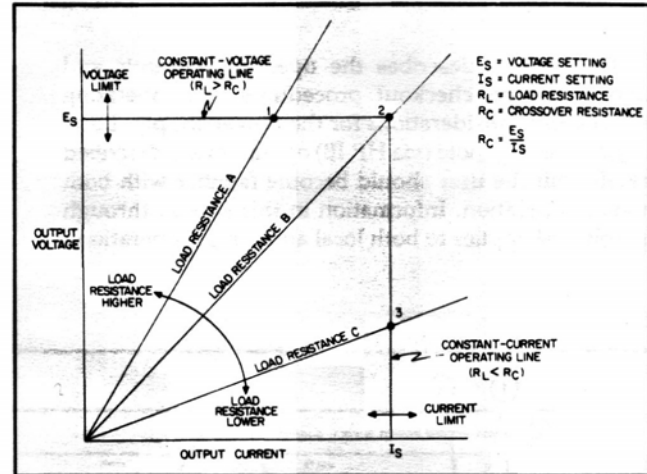
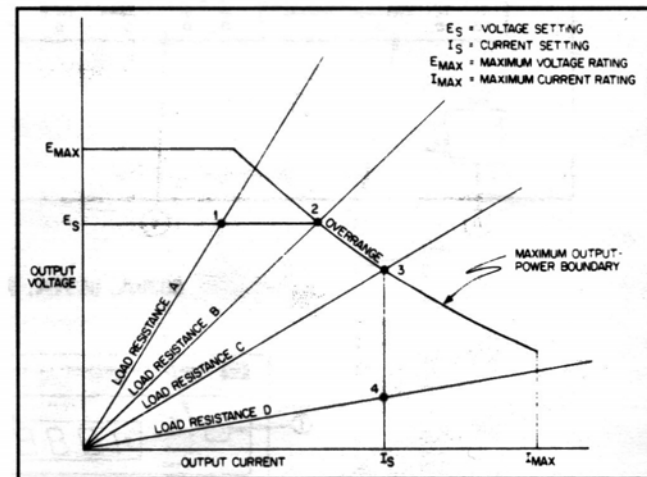

Figure 3-2. Determining Operating Point
Figure 3-3. Overrange Operation
3-6 The power supply can operate as a constant voltage (CV) or constant current (CC) source over a wide range of output voltage and current combinations. The specifications table contains a graph showing the overall output range of the power supply. Figure 3-2 shows a rectangular operating locus that is defined by voltage and current settings of the power supply. The point on that locus at which the power supply actually operates is determined by the load resistance. Three load-resistance lines are shown on Figure 3-2. The line representing load resistance A, the highest load resistance shown on the graph, crosses the operating locus at point 1. Point 1 is on the part of the operating locus defined by the voltage setting, so the power supply operates in CV mode.
3-9 In Figure 3-2 the entire rectangular operating locus falls within the output range of the power supply. Figure 3-3 shows a situation in which the voltage and current settings are high enough that the rectangular operating locus